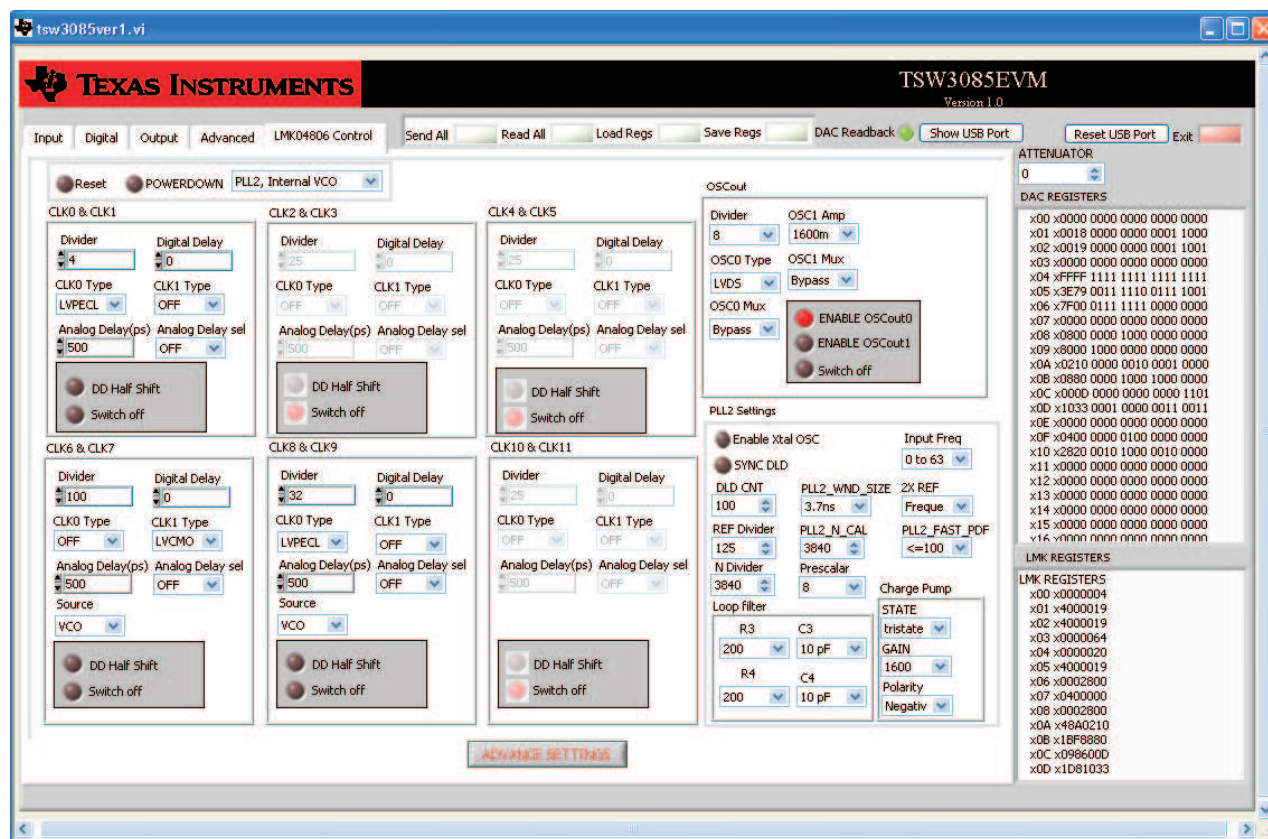

Figure 11. LMK04806B Test Case Register Configuration
- Click on *Send All* to write all of the values to the devices. If the devices were programmed properly, Lock LED D6 is now illuminated and SMA J5 has a clock present operating at 24.567 MHz. The updated register configuration for the LMK04806B now appears as shown in Figure 11.